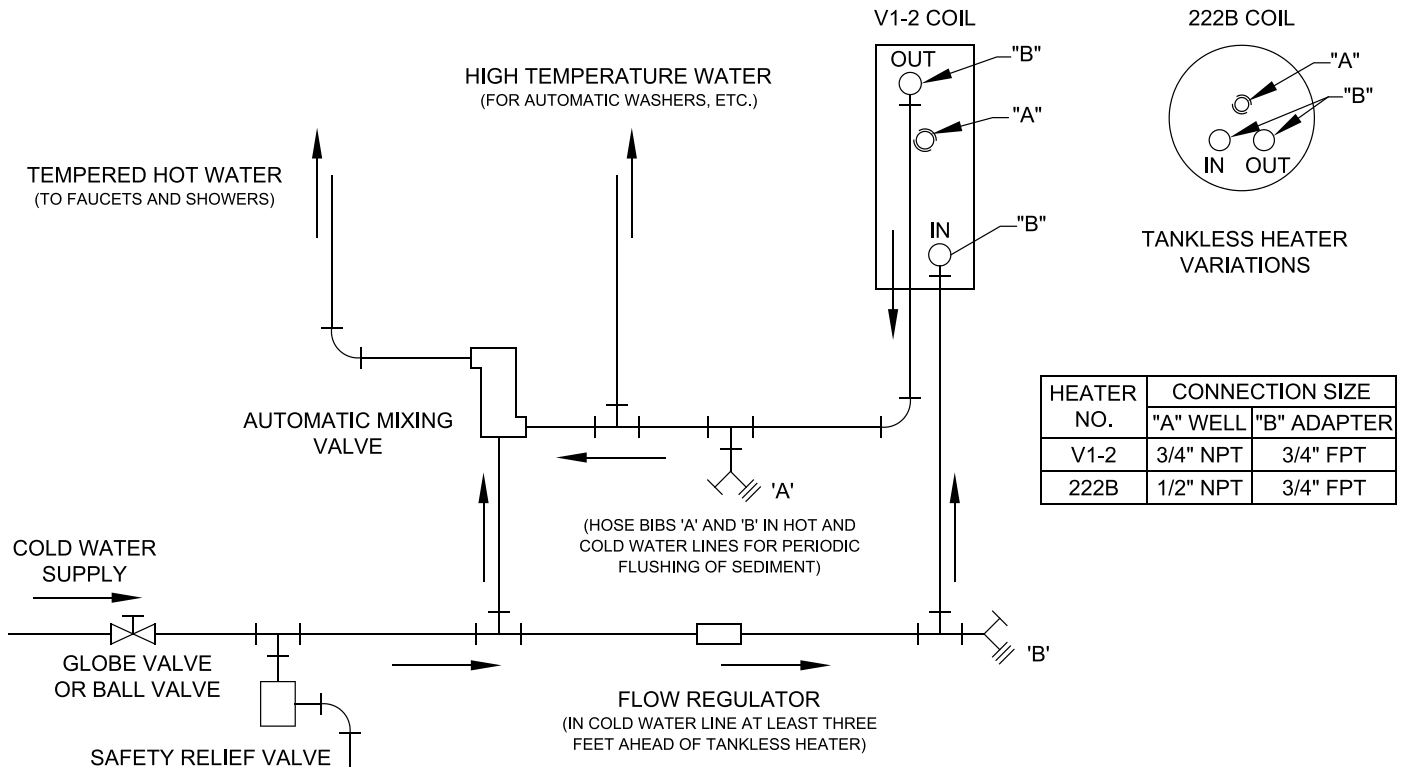

Figure 16A: Schematic Tankless Heater Piping
- A. **CONNECT TANKLESS HEATER PIPING** as shown in Figure 16A. See Tables 2A and 2B for Tankless Heater Rating.
heater prior to entering the mixing valve. The mixing valve should be "trapped" by installing it below the cold water inlet to heater to prevent lime formation in the valve. Refer to Figure 16A.